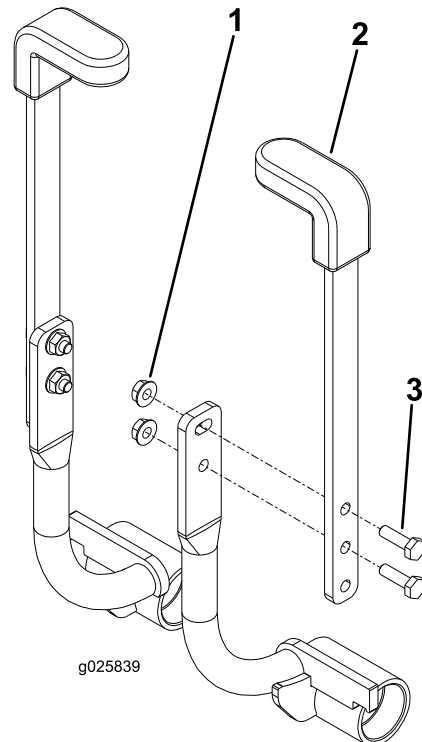

Figure 4
17. Remove the hex-head screws (1/4 x 7/8 inch), the serrated-flange nuts (1/4 inch), and the handles (Figure 4).
18. Install the extended-drive levers, using the hardware removed in step 17 (Figure 4).